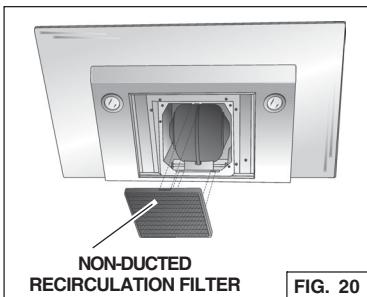

FIG. 20
1. To remove the CHARCOAL filter, push in on the front filter latch. Pull the filter down to disengage the rear filter tabs. Fig. 20.